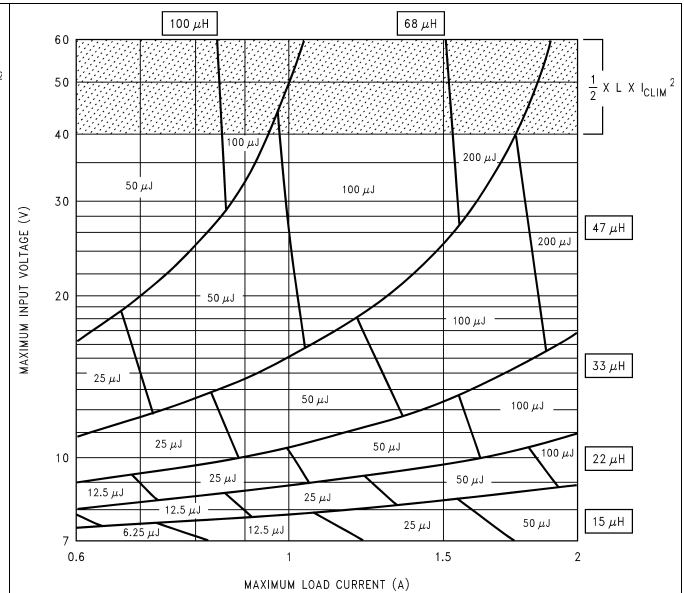

Figure 34. LM2593HV 5-V
1. A first pass inductor selection is based upon inductance and rated maximum load current. Choose an inductor with the inductance value indicated by the nomograph (see Figure 34) and a current rating equal to the maximum load current. Therefore, quick-select a 68- μH , 1-A inductor (designed for 150-kHz operation) for this application.
2. Confirm that it is rated to handle 50 μJ (see Figure 34) by either estimating the peak current or by a detailed calculation as shown in *AN-1197 Selecting Inductors for Buck Converters (SNVA038)*, and also that the losses are acceptable.
1. A first pass inductor selection is based upon inductance and the switch current limit. Choose an inductor with the inductance value indicated by the nomograph (see Figure 34) and a current rating equal to I_{CLIM} . Therefore, quick-select a 68- μH , 4-A inductor (designed for 150-kHz operation) for this application.